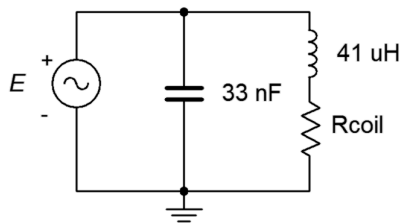

Figure 8.5
19. For the circuit shown in Figure 8.5, determine the resonant frequency, system Q and bandwidth. If the source is 15 volts, determine the inductor and capacitor currents at resonance. Assume the inductor's coil resistance is 3.2Ω .